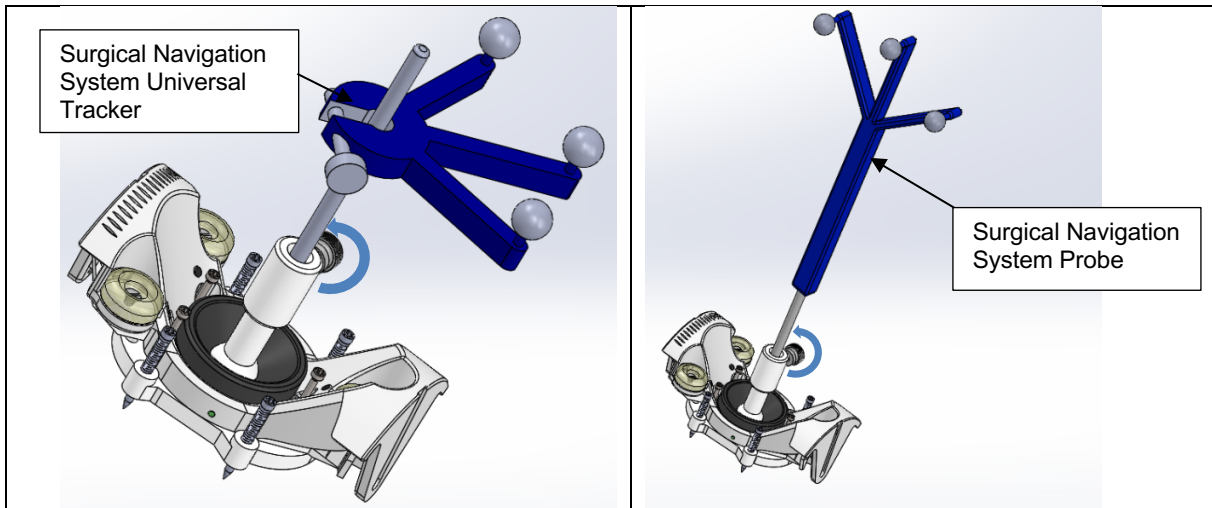

Figure 4: Entry Point Locator with SNS Universal Tracker (Left) and with SNS Probe (Right)
3. Insert the calibrated Tracker Rod with the Universal Tracker into the Entry Point Locator and tighten the Entry Point Locator thumb screw (**Figure 4, Left**). Alternatively, insert the Surgical Navigation System Probe into the Entry Point Locator (**Figure 4, Right**).